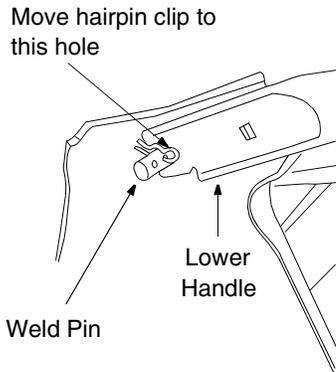

Figure 4
- Using a pair of pliers, insert the hairpin clip into the inner hole in the weld pin. Repeat on other side. See Figure 4.